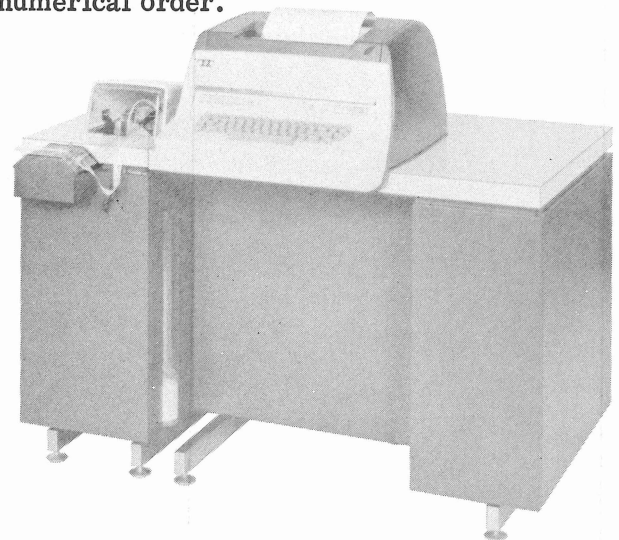

Figure 1 - 37 ASR Teletypewriter Set
1.01 This section is issued to provide actual and schematic wiring diagrams and detailed circuit description information for the 37 Automatic Send-Receive (ASR) Teletypewriter Set (Figure 1).